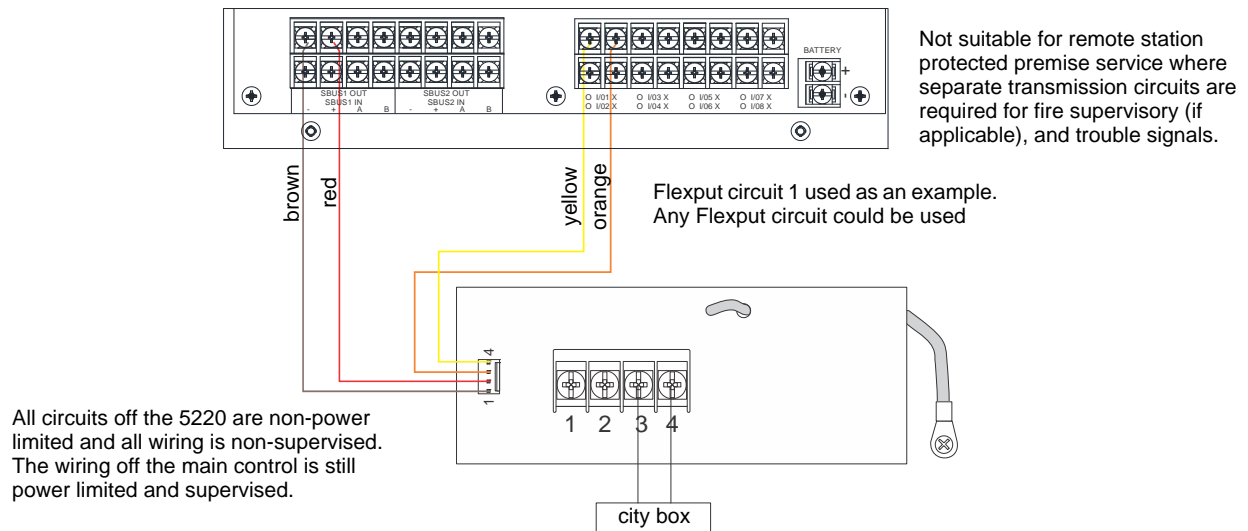

Figure 4.48 City Box Connection
2. Wire the 5220 to the control panel as shown in Figure 4.48. This drawing also shows how to connect the city box coil to terminals 3 and 4 on the 5220. Do not install an EOL resistor in the terminals of the Flexput circuit used for this application.